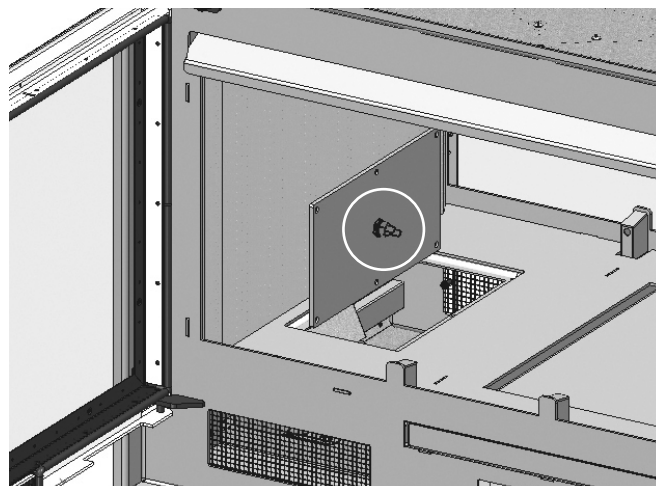

FIG. 11
3. **Caution!** The thermostat is located under one of the side covers. Unscrew the thermostat. (Fig. 11)